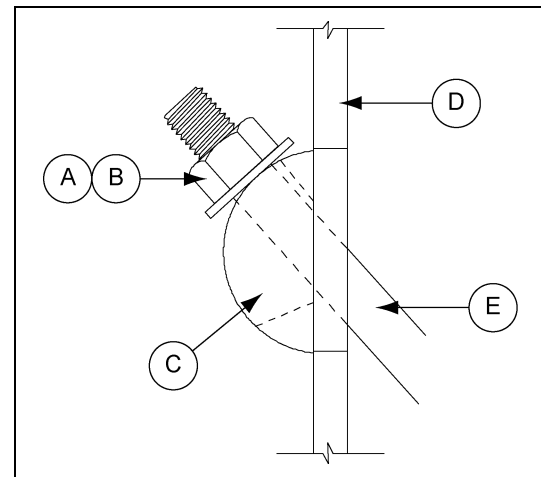

**Figure 5M** Completed Hopper Assembly
Install “X” bracing rods (A) as shown in Figure 5M, Figure 5N and Figure 5O.